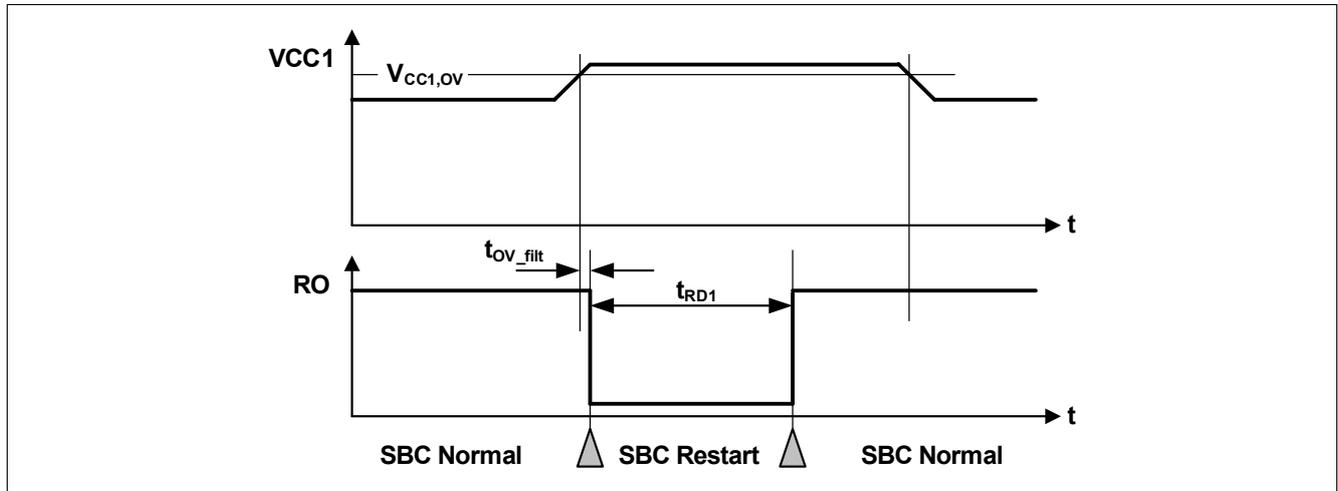

Figure 54 VCC1 Over Voltage Timing Diagram
- If the bit **VCC1\_OV\_RST** is set and **CFGP** = '1', then SBC Restart Mode is entered. The FOx outputs are activated. After the reset delay time ( $t_{RD1}$ ), the SBC Restart Mode is left and SBC Normal Mode is resumed even if the VCC1 over voltage event is still present (see also Figure 54). The **VCC1\_OV\_RST** bit is cleared automatically;